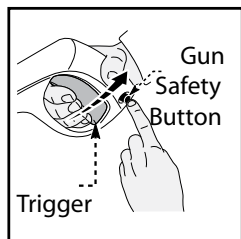

Fig. 6
- To lock the trigger of the spray gun aim the gun away from you and push the lock button from right to left, (Fig. 6), after doing so, squeeze or pull the trigger to make sure it is locked and will not move. Get in the habit of leaving the lock button in the “locked” position when the power washer is not in use. This ensures the gun is in “safe” mode until it is ready for use.